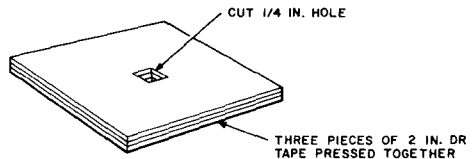

Fig. 13—Insulating Pad
- (2) Remove the underlying metal (aluminum if *PAP*, aluminum and steel if *PASP*) to the edges of the cutout area. Do not damage the inner polyethylene jacket. Carefully turn the metal edges away from the inner polyethylene jacket to maintain dielectric strength. Remove any metal slivers with tweezers.
- (3) Using a cable drill, make a hole in the center of the inner polyethylene jacket to expose the core wrap. Make an opening in the core wrap without damaging the conductor insulation.
- (4) Cut three strips of 2-inch DR tape slightly longer than the cutout area. Press the strips together to form a 3-layer insulating pad. Cut a 1/4-inch hole with scissors in the center of the pad (Fig. 13).